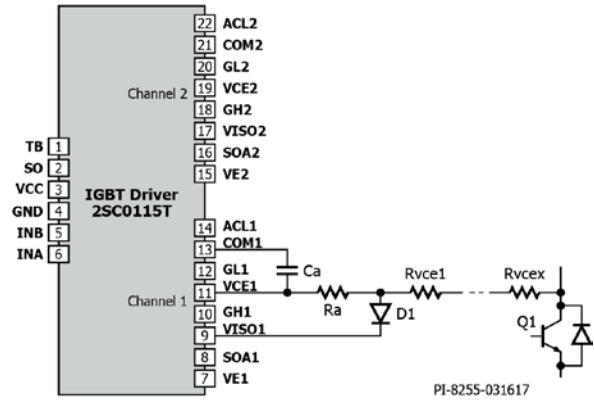

Figure 6. Standard Setting for IGBT Short-Circuit Detection.
All SCALE gate driver cores are able to detect and safely turn-off a short-circuit condition within this 2 μ s time frame. To achieve this, only minor adaptations to the standard setting for IGBTs are required, as demonstrated in the following example using a 2SC0115T SCALE gate driver core. Figure 6 illustrates the typical settings for short-circuit monitoring circuitry as can be found in the corresponding manual (2) (only one channel shown). The response time is set by capacitor Ca and resistor Ra. Typical values for DC-link voltages greater than 550 V are, for instance, Ca = 22 pF and Ra = 120 k Ω , which provide a response time of 5.9 μ s (2).